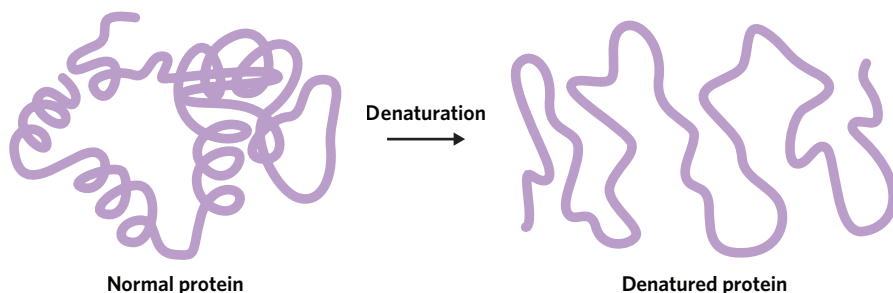

Figure 9 Denaturation of a protein's structure at high temperatures
- **Denaturation** is the process whereby the secondary, tertiary, and quaternary (if applicable) structures of the enzyme, which define the shape of the active site, are disrupted by the increase in temperature (figure 9).